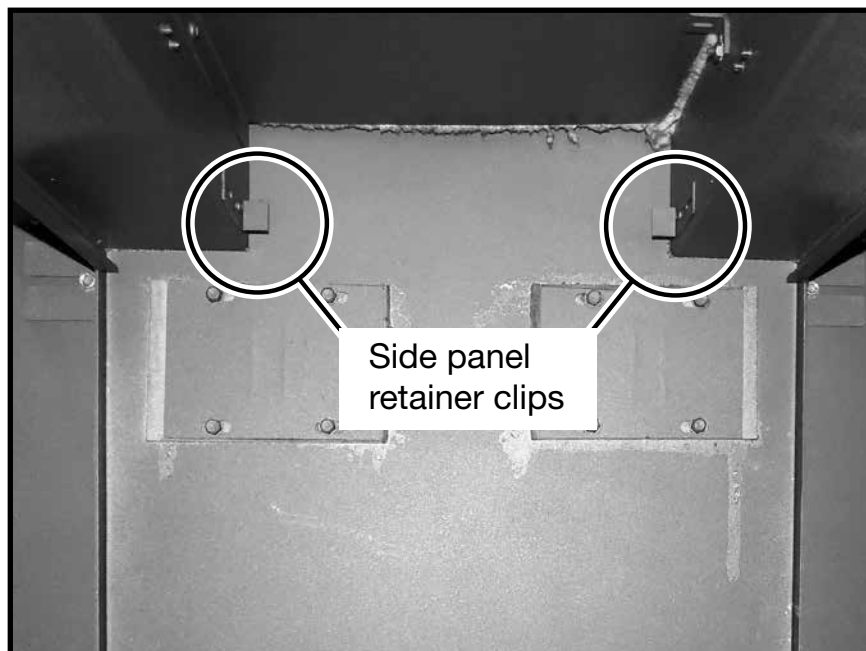

Figure 11: Side panel retainer clips location.
12. Remove the panel retainer clips from both sides of the upper firebox in preparation for side panel installation (Figure 11). There are two clips on each side of the firebox.